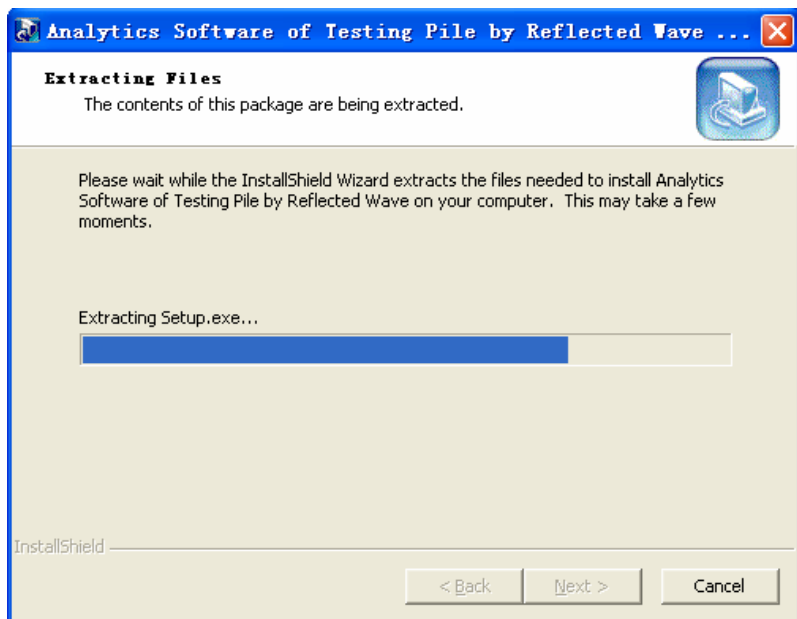
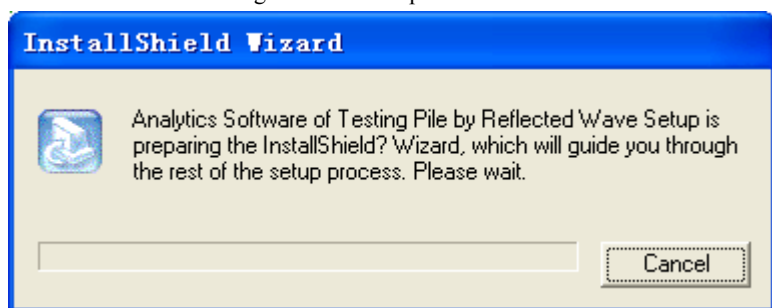

Figure 2.1 Uncompress Interface
Figure 2.2 Start the Installation Wizard Interface
1. Insert the U-disk into the computer, find the file of P8Setup.exe under the root directory in the U-disk and run it. The installation wizard will uncompress the needed files into computer (Figure 2.1). Once uncompress is completed, the installation wizard (Figure 2.2) will be started automatically to instruct the users how to make installation. After several minutes, a welcome screen like Figure 2.3 will appear.